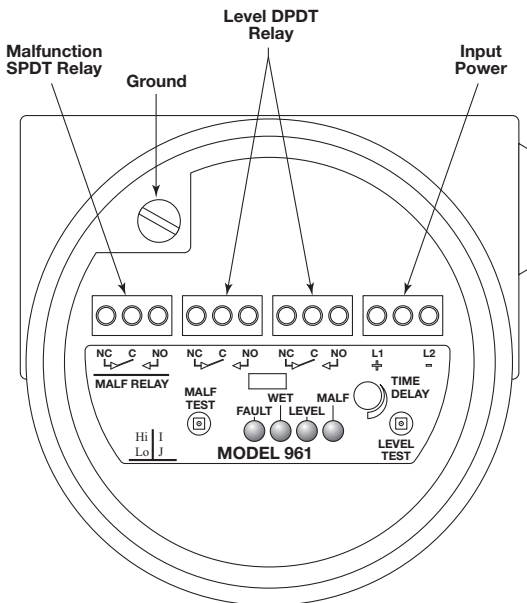

Figure 6
4. Refer to Figure 6. Connect power leads to proper terminals. Model 961 is available for AC power (102 to 265 VAC) or for DC power (18–32 VDC)
5. Connect desired relay wiring as shown in Figure 6.